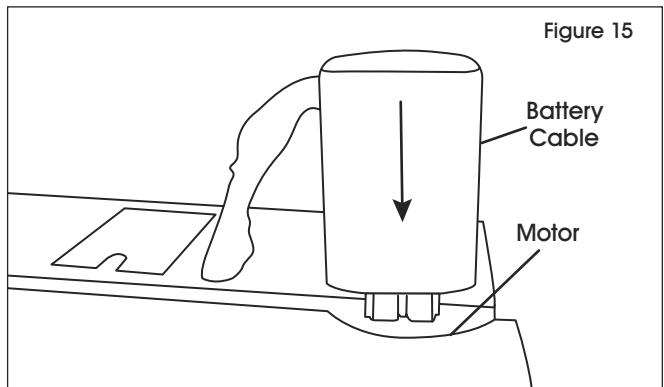

Figure 15
8. Reconnect battery cable to motor. (See Figure 15)